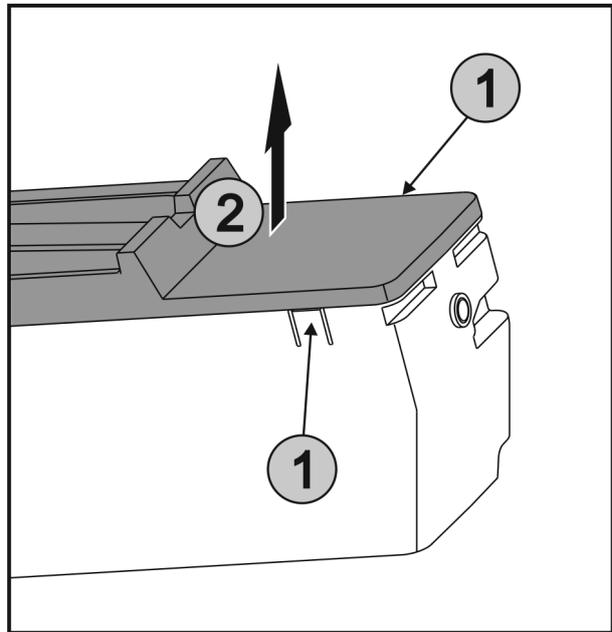

Fig. 38
- ▶ Press the lugs Fig. 38 (1) on both sides of the EasyTwist-Ice simultaneously and take off the lid Fig. 38 (2) to the top.